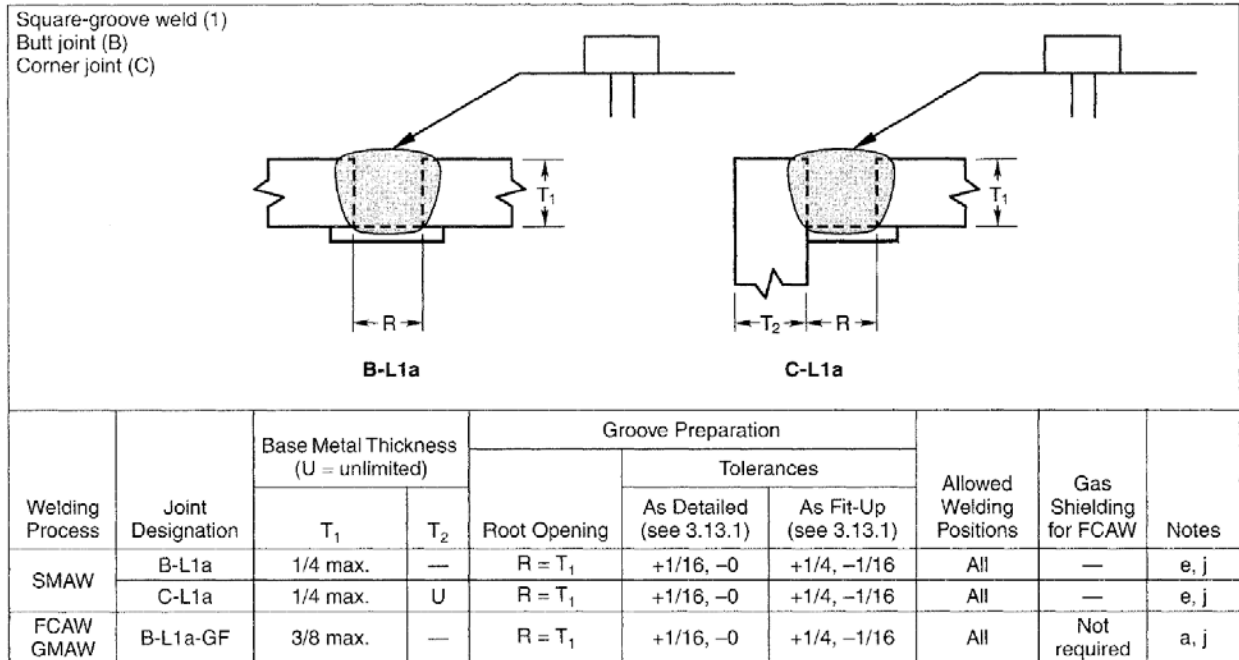

Figure 2. AWS D1.1 Figure 3.4 – Prequalified CJP Groove Welded Joint Details
7. The root width shall be equal to the wall thickness of the pipe (0.36 inches). Tolerances for this weld can be found in AISC Table 8-2 or AWS D1.1 Figure 3.4, shown in Figure 2.